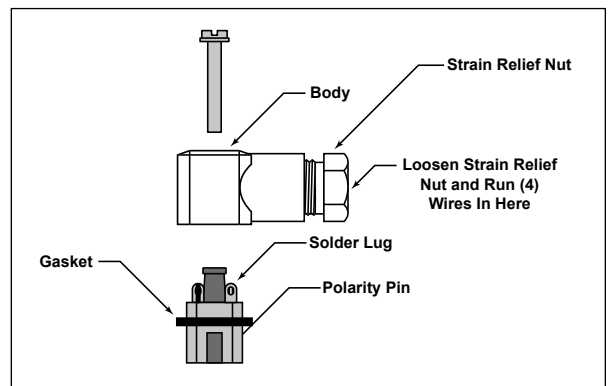
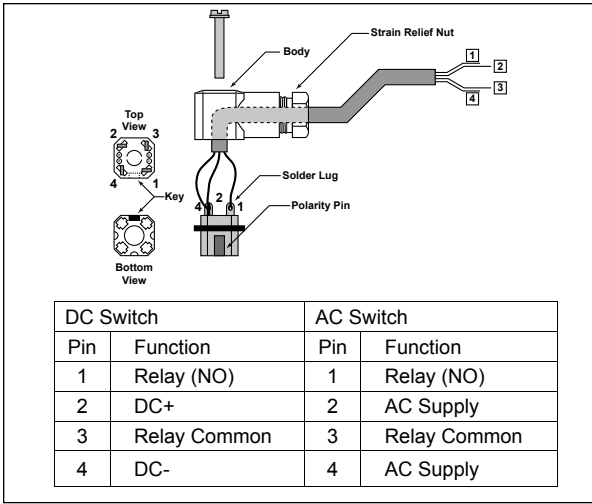

Figure 13. Latching Switch Installation
Figure 14. Latching Switch Installation
2. The connector has four solder lugs labeled 1, 2, 3 and 4. Soldering wires to the terminals first requires disassembly of the connector as shown in Figure 13. The specific wiring pinouts for each style latching switch are shown in Figure 14 on page 10.